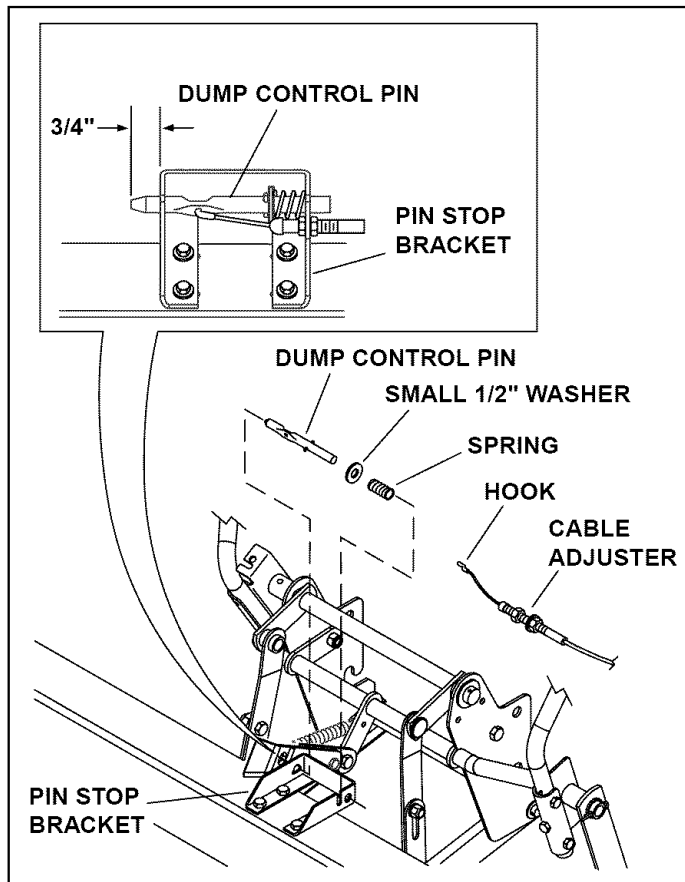

FIGURE 16
- Install a small 1/2" washer and then the compression spring onto the dump control pin. Install the dump control pin into the pin stop bracket. Make sure the flat side of the pin faces to the front when finished. See figure 16.
- Connect the hooked end of the dump cable into the hole in the dump control pin. Install the threaded cable adjuster down into the notch in the pin stop bracket, placing a nut on each side of the notch. Adjust and tighten the adjuster nuts so that the tapered end of the dump control pin extends 3/4" through the side of the pin stop bracket. See figure 16.